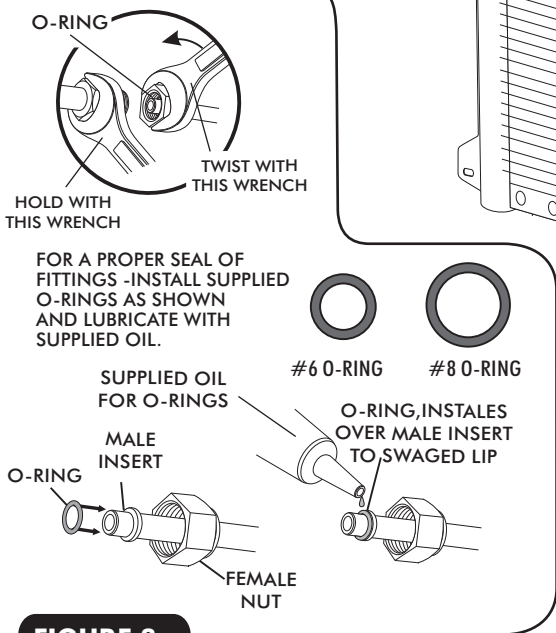
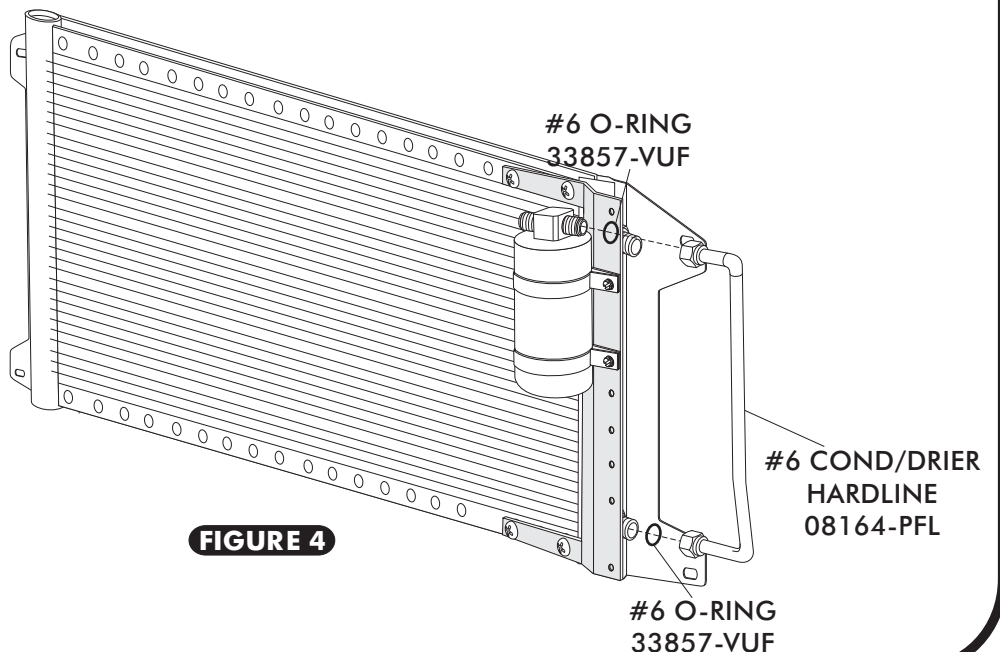
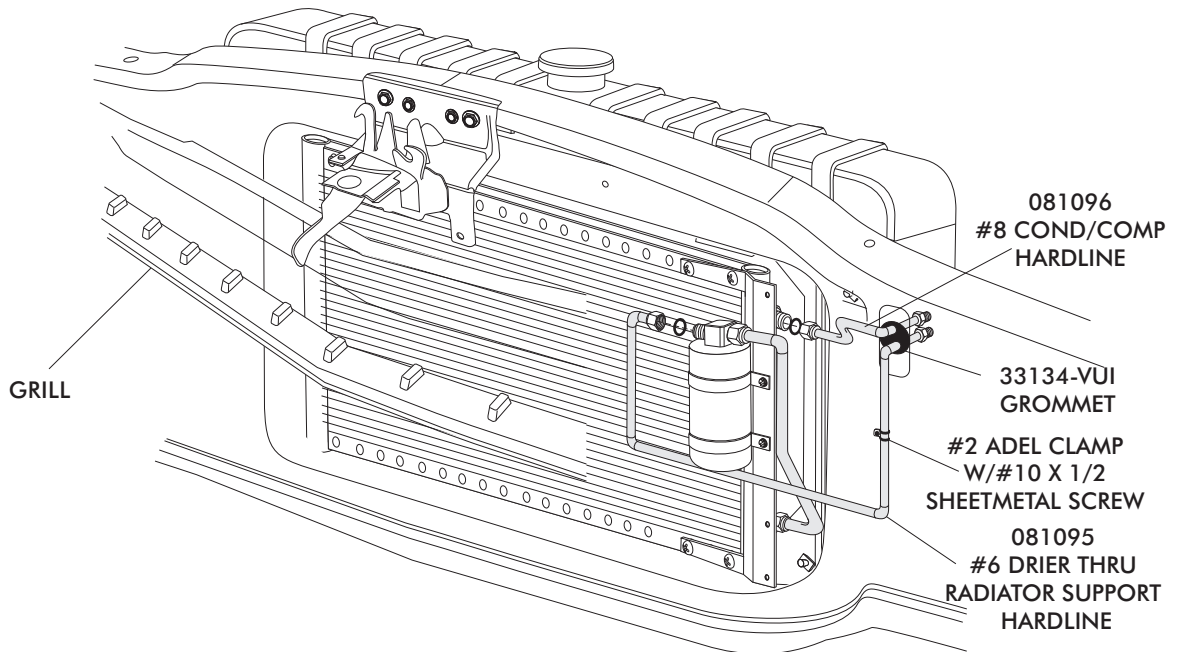

FIGURE 3a
FIGURE 4
FIGURE 9
- LUBRICATE (2) #6 O-RINGS SEE FIGURE 3a ABOVE, AND INSTALL THE #6 DRIER/COND HARDLINE AS SHOWN IN FIGURE 4. TIGHTEN FITTINGS AS SHOWN IN FIGURE 3a ABOVE.
- LUBRICATE A #6 AND #8 O-RING AS SHOWN IN FIGURE 3a ON PAGE 7. INSTALL THE #6 DRIER HARDLINE AND THE #8 CONDENSER HARDLINE AS SHOWN IN FIGURE 9 BELOW. TIGHTEN FITTINGS AS SHOWN IN FIGURE 3a ON PAGE 7.
SECURE #6 DR/CORE HARDLINE TO RADIATOR CORE SUPPORT W/#2 ADEL CLAMP USING #10 X 1/2 SHEETMETAL SCREW SEE FIGURE 9 BELOW.